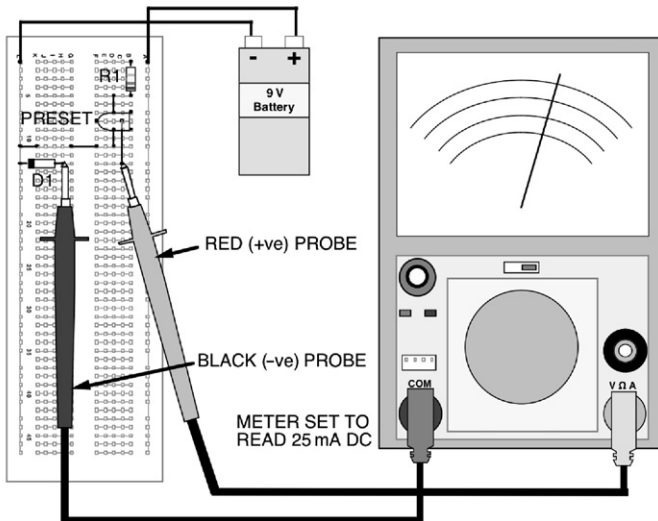

FIGURE 6.10 The same circuit, set up to measure the current through the diode.
3. Now set up the breadboard layout of Figure 6.10, to measure the current through the diode – the breadboard layout is designed so that all you have to do is take out a short length of single-strand connecting wire and change the position of the